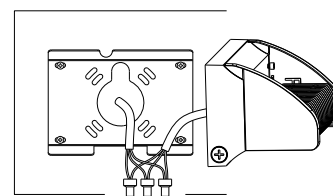

Figure 1-4
4.Make wiring connection and go through isolation treatment.(Figure 1-4)